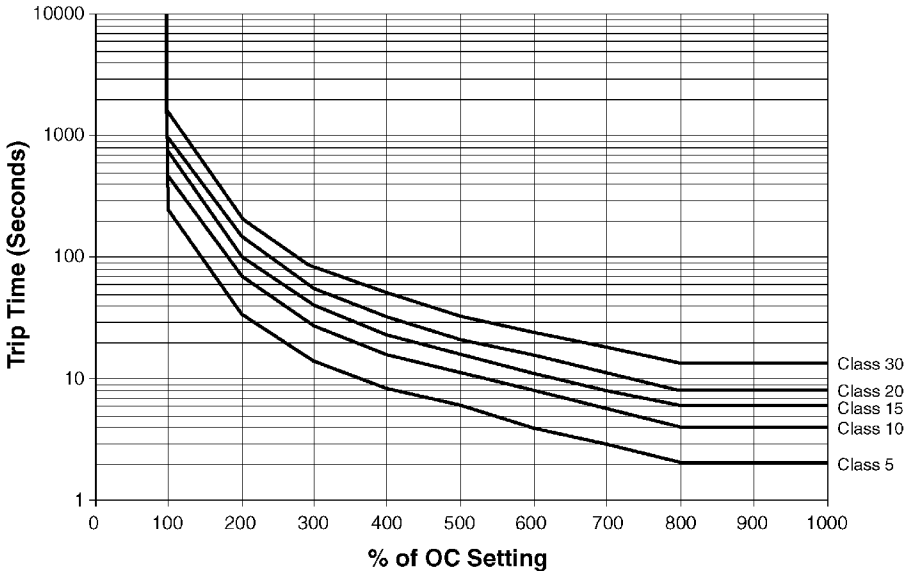

Figure 2. Overload Trip Class Curves
- TC-** Trip class is defined as the maximum trip delay in seconds when there is a 600% overload. The type of motor and application determines the trip class; the motor manufacturer should be consulted for the proper setting. See Table 5 for trip class descriptions and Figure 2 for overload trip class curves.